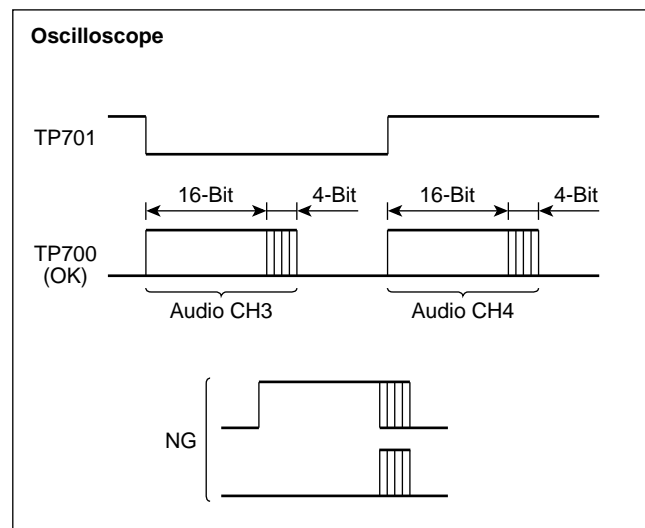

Figure 1. Waveform of CH3/CH4 Offset Level Adjustment
- Adjust  $\text{RV103/APR-13(C-2)}$  so that the audio CH3 part of the waveform at TP700 makes the same waveform to the Figure 1 (left side).
- Adjust  $\text{RV203/APR-13(F-2)}$  so that the audio CH4 part of the waveform at TP700 makes the same waveform to the Figure 1 (right side).